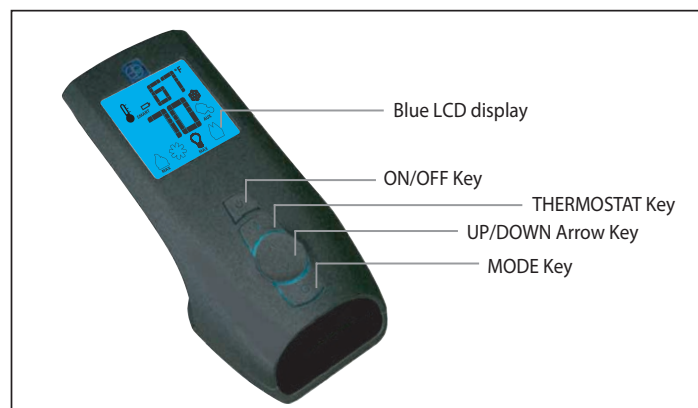
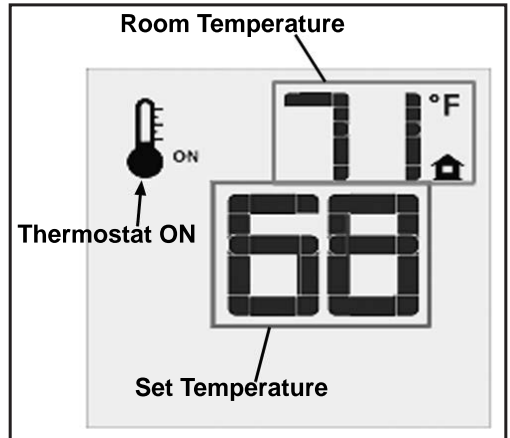
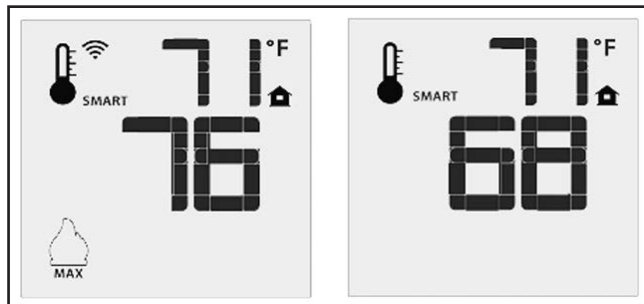
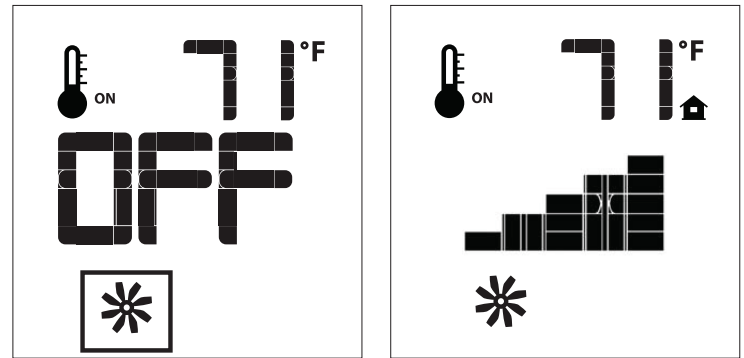

Figure 5: Proflame 2 Transmitter.
Figure 10: Remote Control Displays Set Temperature.
Figure 11: Remote Control's Smart Flame Function.
Figure 13: Fan Control
The Proflame 2 Transmitter is a black remote control with a blue backlit LCD display. It uses a streamline design with a simple button layout and informative LCD readout (Figure 6). The Transmitter is powered by three (3) AAA type batteries. A Mode Key is provided to Index between the features and a Thermostat Key is used to turn on/off or index through Thermostat functions (Figure 5 & 6)
Press the ON/OFF Key on the Transmitter. The Transmitter LCD display will only show the room temperature and Icon (see Figure 10). A single "beep" from the IFC confirms reception of the command and both the pilot light (if the unit is not set to continuous pilot) and main burner will turn off.
The Remote Control can operate as a room thermostat. The thermostat can be set to a desired temperature to control the comfort level in a room. To activate this function, press the Thermostat Key (see Figure 5). The LCD display on the Transmitter will change to show that the room thermostat is "ON" and the set temperature is now displayed (see Figure 10). To adjust the set temperature, press the Up or Down Arrow Keys until the desired set temperature is displayed on the LCD screen of the Transmitter.
The Smart Thermostat function adjusts the flame height in accordance to the difference between the set point temperature and the actual room temperatures. As the room temperature gets closer to the set point the Smart Function will modulate the flame down. To activate this function, press the Thermostat Key (Figure 5) until the word "SMART" appears to the right of the temperature bulb graphic (Figure 11). To adjust the set temperature, press the Up or Down Arrow Keys until the desired set temperature is displayed on the LCD screen of the Transmitter.
The Q3LI comes with a convection fan that can be controlled with the Transmitter. The fan speed can be adjusted through six (6) speeds. To control the fan press the MODE key (Figure 5) to index to the fan control icon (Figure 13). Use the UP/DOWN arrow keys to turn on, off, or adjust the fan speed (Figure 13). A single beep from the IFC will confirm the command has been received